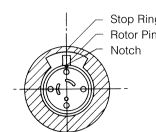

Fig. 6. Correct position of rotor seal (slots face the stator).
- Line up the rotor seal as shown in Figure 6. The rotor seal slots face the stator.